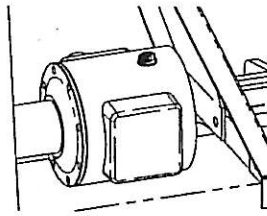

Fig. 3
2. The gearbox filled up to the level mark in the inside rod (A) (fig. 3). Capacity 1,5 l. (R400B-M, R400S-M) and 3,5 l (R400B-S, R400S-S). Use SAE 90 oil.